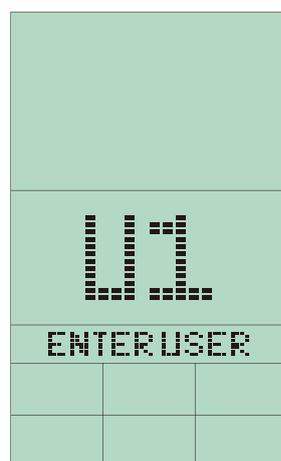

FIGURE 3
2. User may turn the UP/DOWN toggle wheel to select User 1~4. Press ENTER to select (FIGURE 3~4).